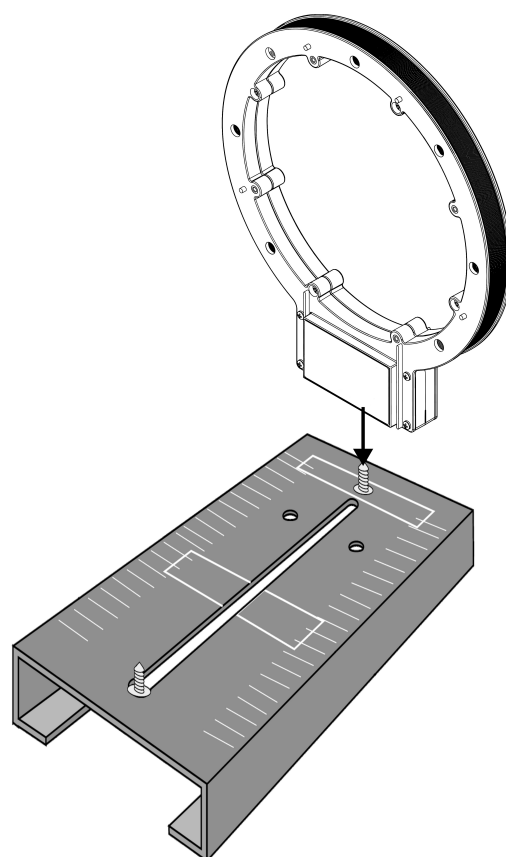

Figure 1. Attaching the fixed position coil
1. Place the first coil over the rectangular slot on the end of the base (0 cm position). Use the provided cap screw to secure the mount firmly against the top surface of the base. (See Figure 1.)